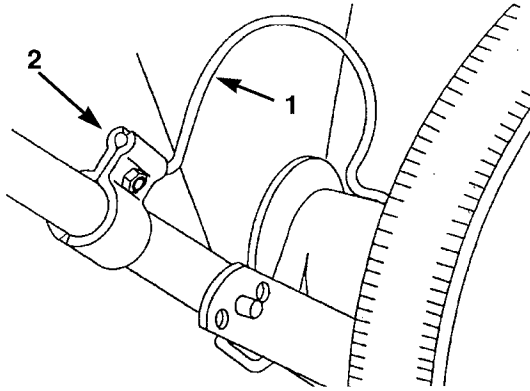

Figure 27
- F.** Rotate the spring and insert its end into the hold-down clamp (Fig. 27).
1. Pull the hold-down spring out of the clamp (Fig. 27).